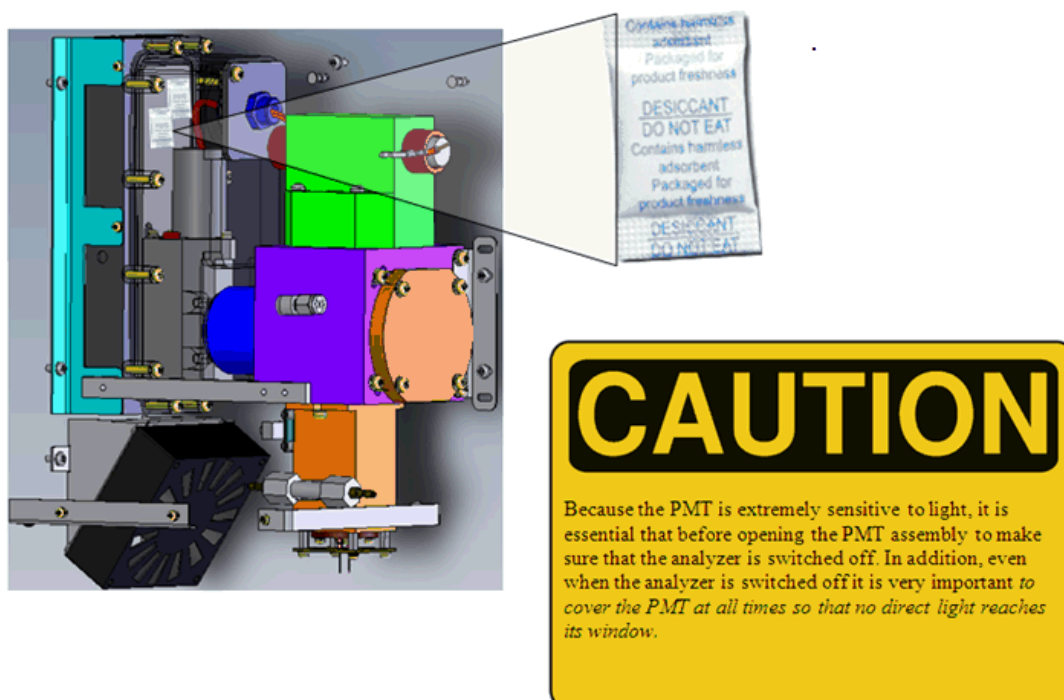

Figure 26 Position of desiccant packs
3. Remove the old desiccant packs and replace with new (see Figure 26). Do not attempt to dry and reuse the old packs.